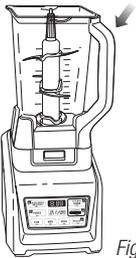
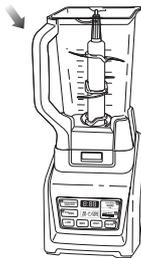

Fig. 4a
Fig. 4b
**5** The pitcher can be placed on the motor base two ways; the handle can be on the front right corner or the front left corner. **(Fig. 4a, Fig. 4b)**